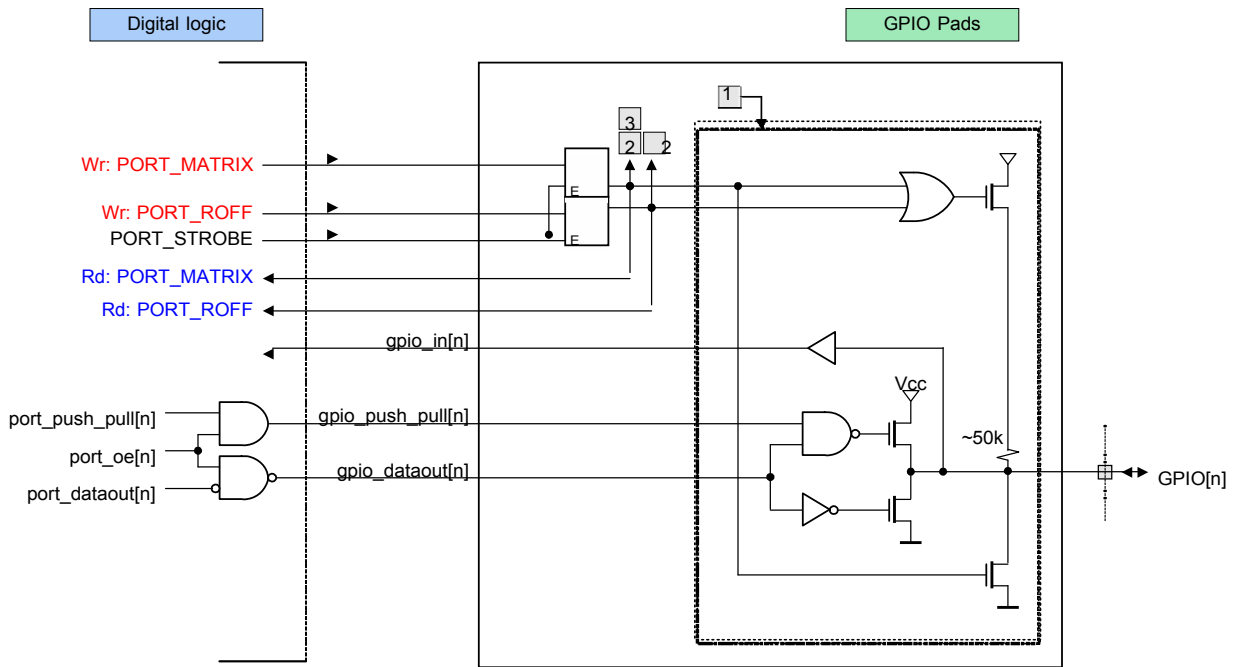
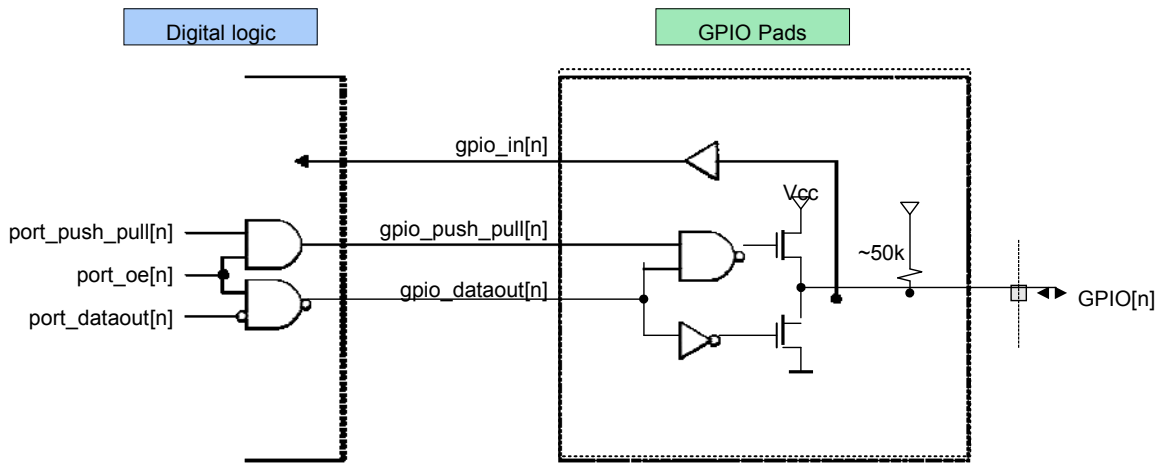

Figure 29.2. GPIO[3:1] Functional Diagram
Figure 29.3. Other GPIO Functional Diagram
Functional diagram of the other GPIO ports is in Figure 29.3. Note that is the general GPIO circuit, which can be forced by digital control to have limited functionality (for example, as input only, etc.).
- GPIO[5] can be used only as a up to 1mA LED current driver. The LED should be connected directly in between the GPIO[5] and VCC. In a development system this pin is used as a C2 interface C2CLK. In the development system the LED has to be isolated from the pin as shown in Figure 29.2 and Figure 29.3. The LED is disabled during debugging.